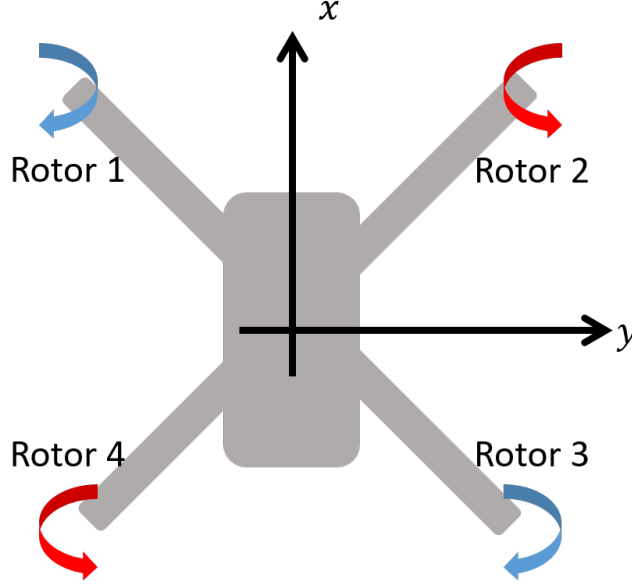

Figure 2: The four rotors and their spinning directions from a top-down view of our quadrotor.
**The actuators** A quadrotor has four rotors. Each rotor spins its propeller to generate thrust and the induced torque. The order and spinning direction of our quadrotor is depicted in Figure 2. Let  $l \in \mathbb{R}^+$  be the arm length (the distance from the rotor to the center of mass). We can define the position of four rotors in the local frame as follows: